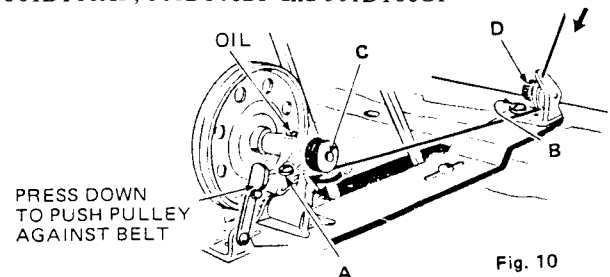

Fig. 10
Place bobbin on spindle C of bobbin winder pushing it on as far as it will go and pass thread through threading points as shown in Fig. 10.
**Note:** Oil your bobbin winder occasionally. Apply a few drops of oil to the oil well in bobbin winder as shown in Fig. 10.